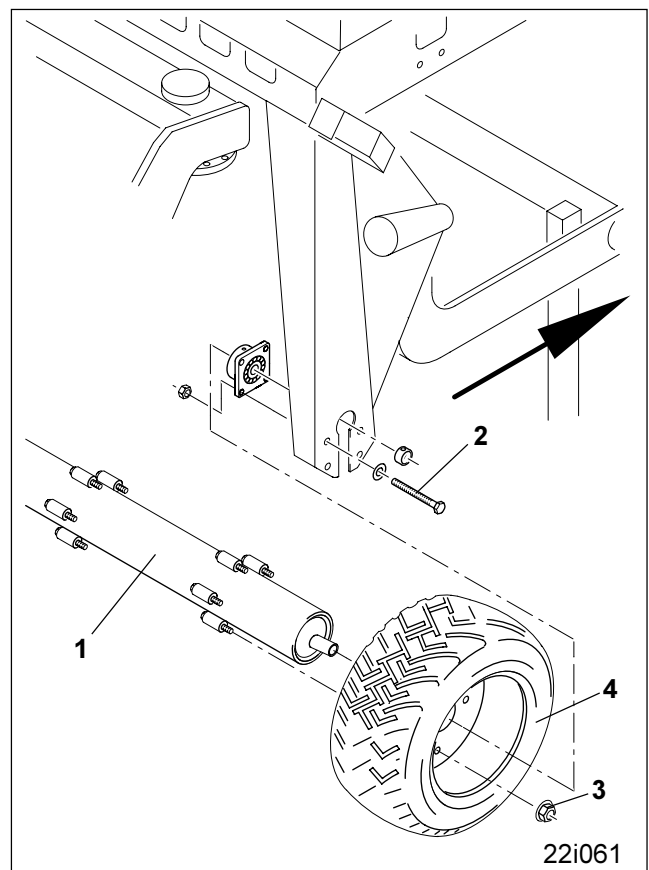

Fig. 50.6
- Secure roller by chocks against unintended rolling away and remove the roller (Fig. 50.6/1)) For this remove the fixing bolt (Fig. 50.6/2) on both sides.
- Remove hex. nuts (Fig. 50.6/3) and pull the tyre (Fig. 50.6/4) off the roller.